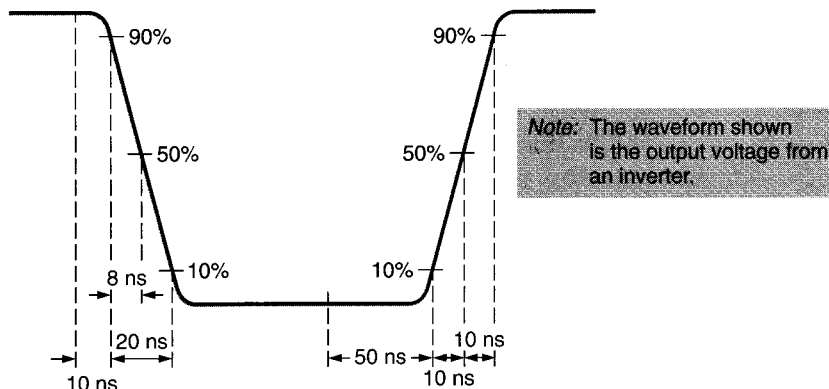

FIGURE 19.54
20. Determine the values of  $t_d$ ,  $t_r$ ,  $t_s$ , and  $t_f$  for the waveform in Figure 19.54.